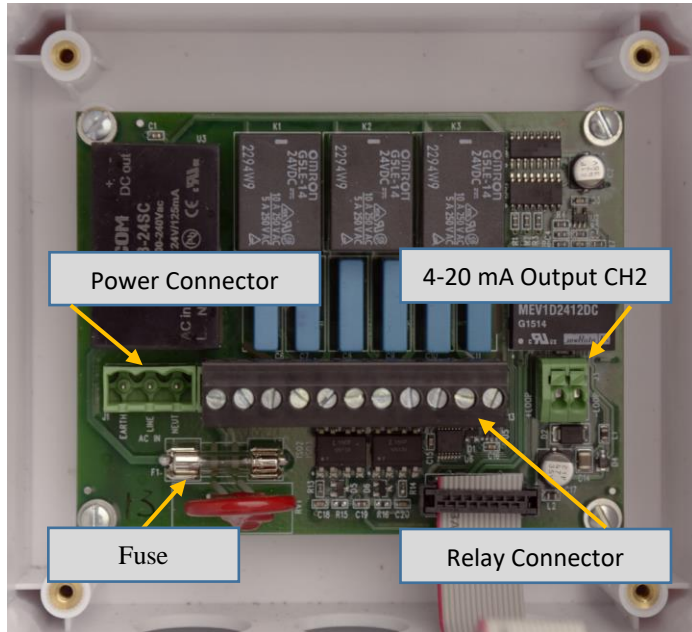

Figure 3-1 Power circuit board showing power and relay connectors. The second 4-20 mA output is also on the board.
**Caution:** This instrument uses 120 or 240 50/60Hz AC power. Opening the enclosure door exposes you to potentially hazardous line power voltage which may be present on the power and relay plugs. **Always remove line power before working in this area.** If the relay contacts are powered from a separate source from the line power, be sure to power off before proceeding. The flip-down door contains low voltage circuitry and is safe to handle. Figure 3-1 shows the controller power board and connectors.
The AM-2250 and AM-2251 additionally have a second isolated, reversible and scalable 4-20 mA output that can be configured for either the process value or temperature. It is located on the power supply board, which is shown in Figure 3-1. The 2 push-pin connector is on the lower right of the board, next to relay connector.